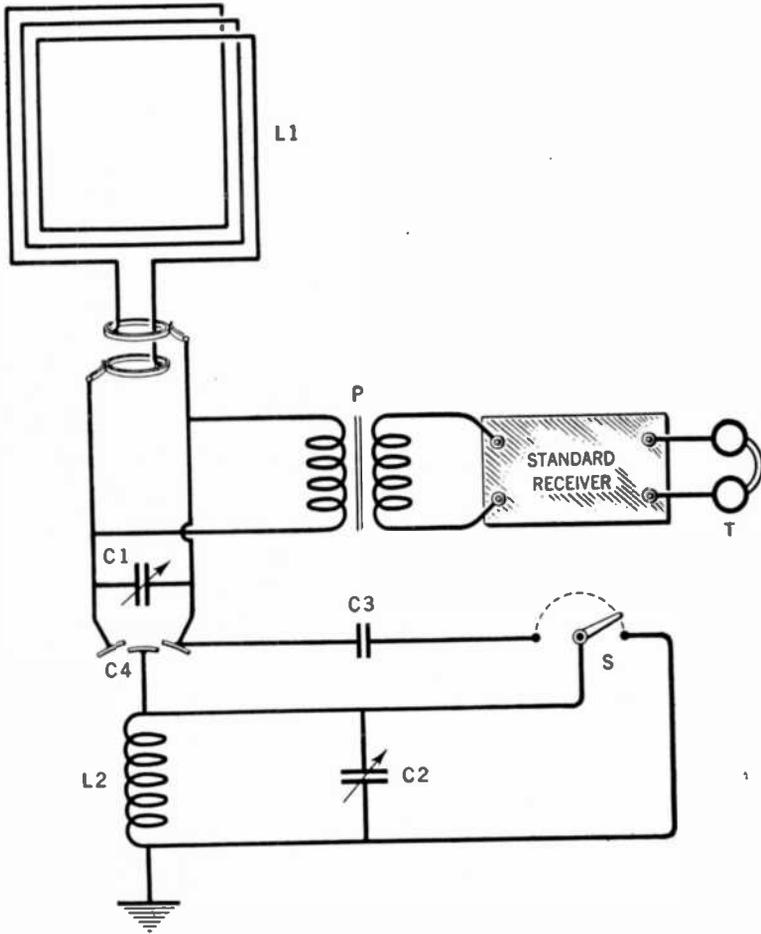

FIG. 68.—A type of radio direction finder developed by the U. S. Bureau of Standards.
*Answer.* One type of direction finder developed by the U. S. Bureau of Standards is shown in Figure 68. The loop  $L_1$  together with variable condenser  $C_1$  form the main oscillatory circuit which is tuned to the wavelength of the transmitting (bearing) station. Connected across the condenser  $C_1$ , either directly or through a "potential" transformer  $P$ , is the vacuum tube amplifying and detecting apparatus. As developed by the Bureau of Standards this receiver consists of three stages of r-f. amplification, a detector, and two stages of a-f. amplification. It may, however, be of any standard design. In one type of direction finder (RCA) the receiver is an eight-tube super-heterodyne.